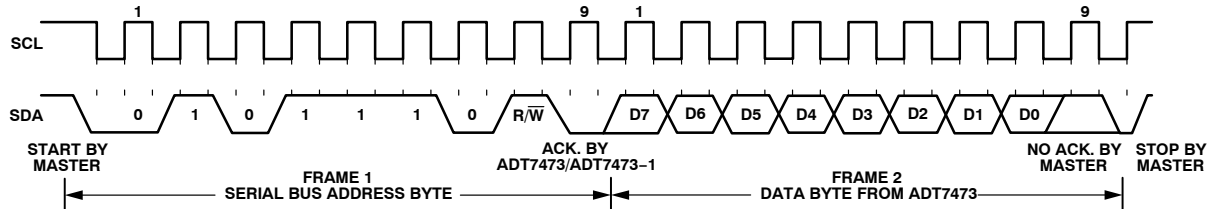

Figure 19. Reading Data from a Previously Selected Register
- If the address pointer register is known to be already at the desired address, data can be read from the corresponding data register without first writing to the address pointer register, as shown in Figure 19.